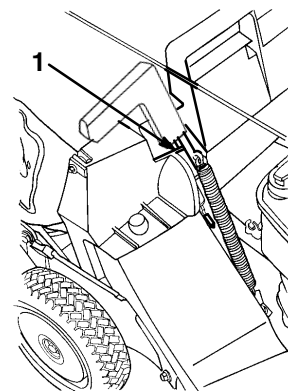

Figure 18
5. Pull the discharge door handle forward and move the handle rearward until the pin locks in the bag notch (Fig. 18).